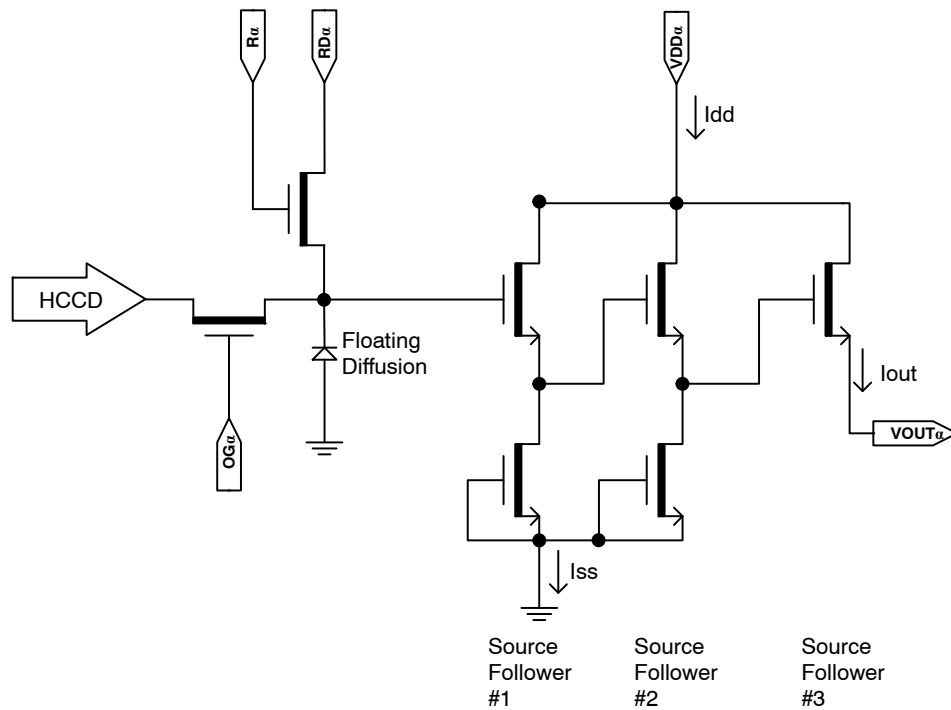

Figure 17. Output Amplifier
2. The maximum DC current is for one output. $I_{dd} = I_{out} + I_{ss}$. See Figure 17.